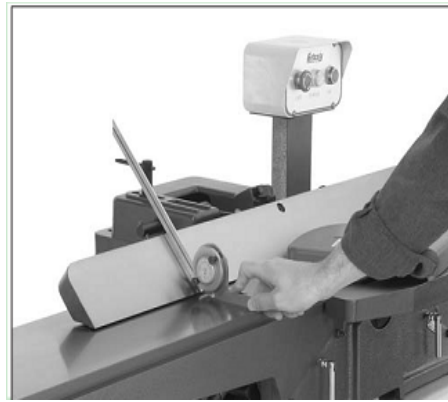

Figure 19
1. Using a sliding bevel adjusted to 135°, adjust the fence to the 135° (45° outward) position, as shown in Figure 19